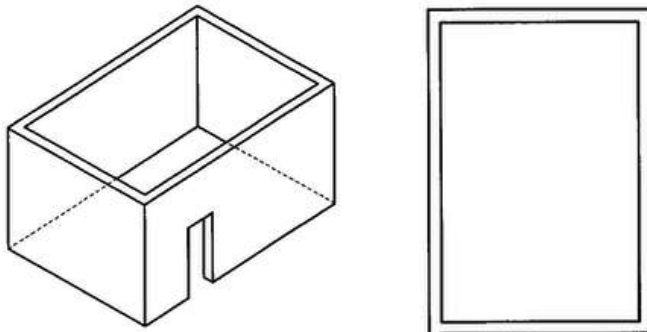

Figure 1 - Enclosure with walls on all sides but no overhead cover.
- An enclosure with walls on all sides, but at least one permanent opening at ground level and no overhead cover. The appliance shall not be located or used overhead unprotected combustible construction. See Figure 1.